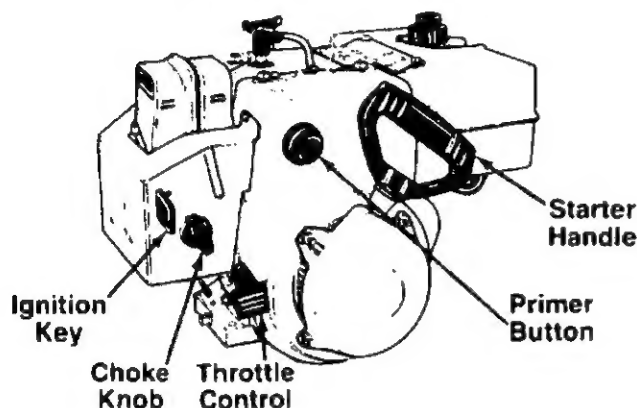

FIGURE 16.
2. Move throttle control up to FAST position. Insert ignition key into slot. See figure 16. Be certain it snaps into place. **Do not turn key.**
4. Push primer button two or three times. See figure 16. If engine is warm, push primer button once only.
5. Grasp starter handle (see figure 16) and pull rope out slowly, until it pulls slightly harder. Let rope re-wind slowly.